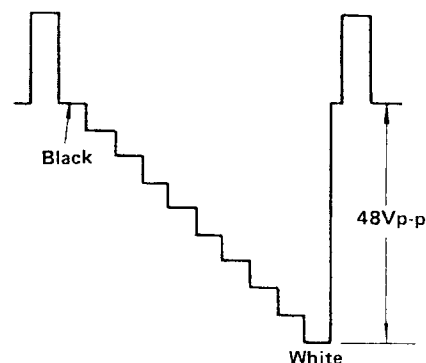

Fig. 4-2-6
- Adjust VR5 (SUBCONTRAST) so that the blanking level to the top step of negative stairstep signal is 48Vp-p. (Fig. 4-2-6)